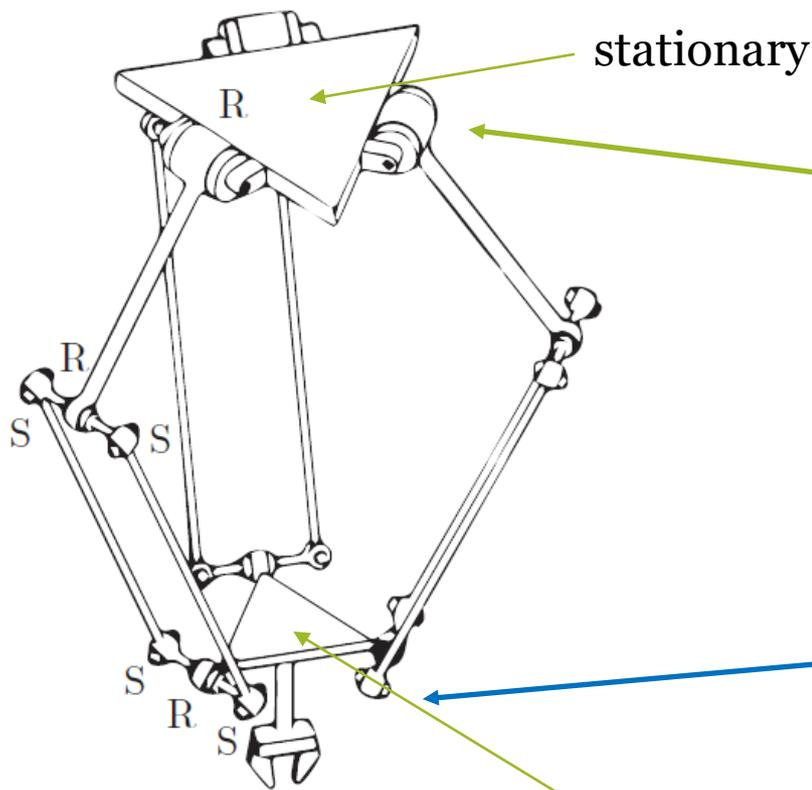

Figure 2.8: The Delta robot. mobile
**Example 2.7** (Delta robot). The Delta robot of Figure 2.8 consists of two platforms – the lower one mobile, the upper one stationary – connected by three legs. Each leg contains a parallelogram closed chain and consists of three revolute joints, four spherical joints, and five links. Adding the two platforms, there are  $N = 17$  links and  $J = 21$  joints (nine revolute and 12 spherical). By Grübler’s formula,